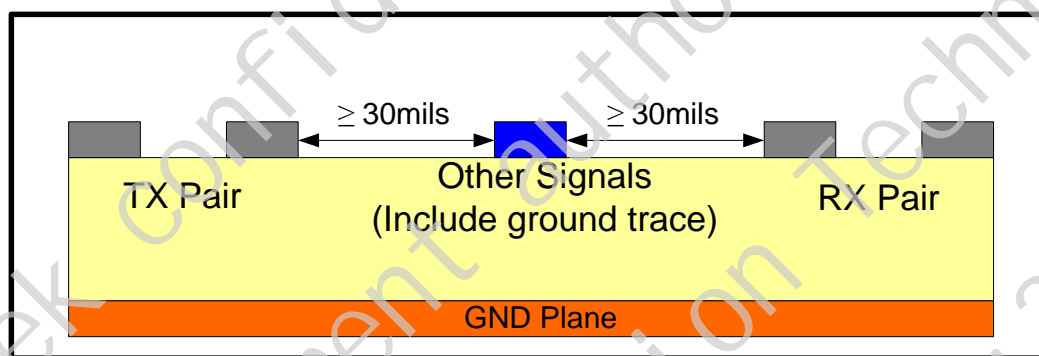

Figure 2. Trace Spacing Recommendation for a 4-Layer PCB
- As possible to space to all other signals be at least 30-mil in order to avoid harmful coupling issues in a 4-layer PCB (see Figure 2)